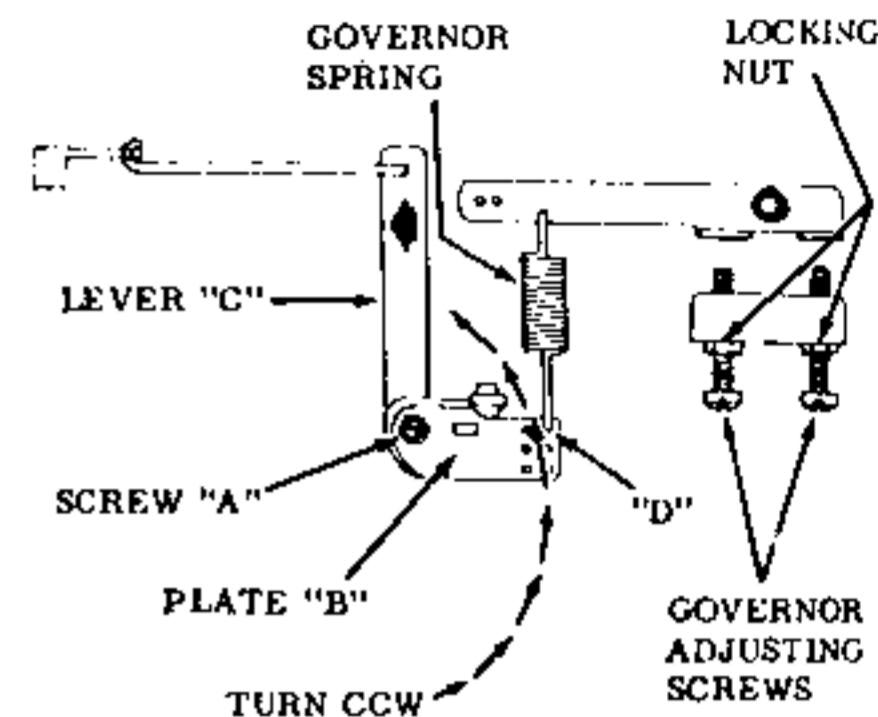

Fig. T13—External governor linkage on Models VH80 and VH100. Refer to text for adjustment procedure.
For external linkage adjustments, refer to Figs. T13 and T14. Loosen screw (A), turn plate (B) counter-clockwise as far as possible and move lever (C) to the left until throttle is fully open. Tighten screw (A). Governor spring must be hooked in hole (D) as shown. Adjusting screws on bracket shown in Figs. T13 and T14 are used to adjust fixed or variable speed settings.